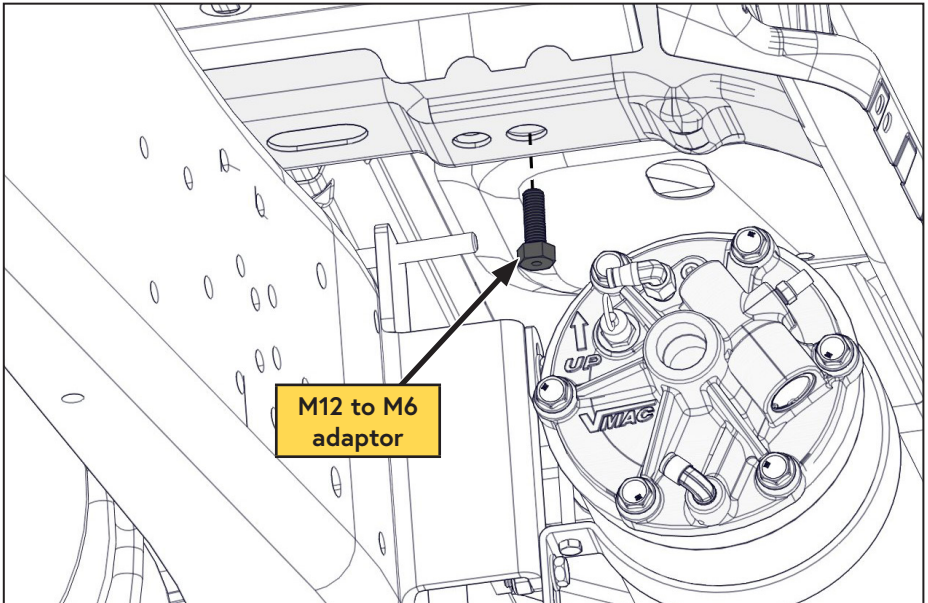

Figure 57 — Install adaptor bolt
- ☐ Install the M12 to M6 adaptor into the threaded hole in the body cross member (Figure 57).